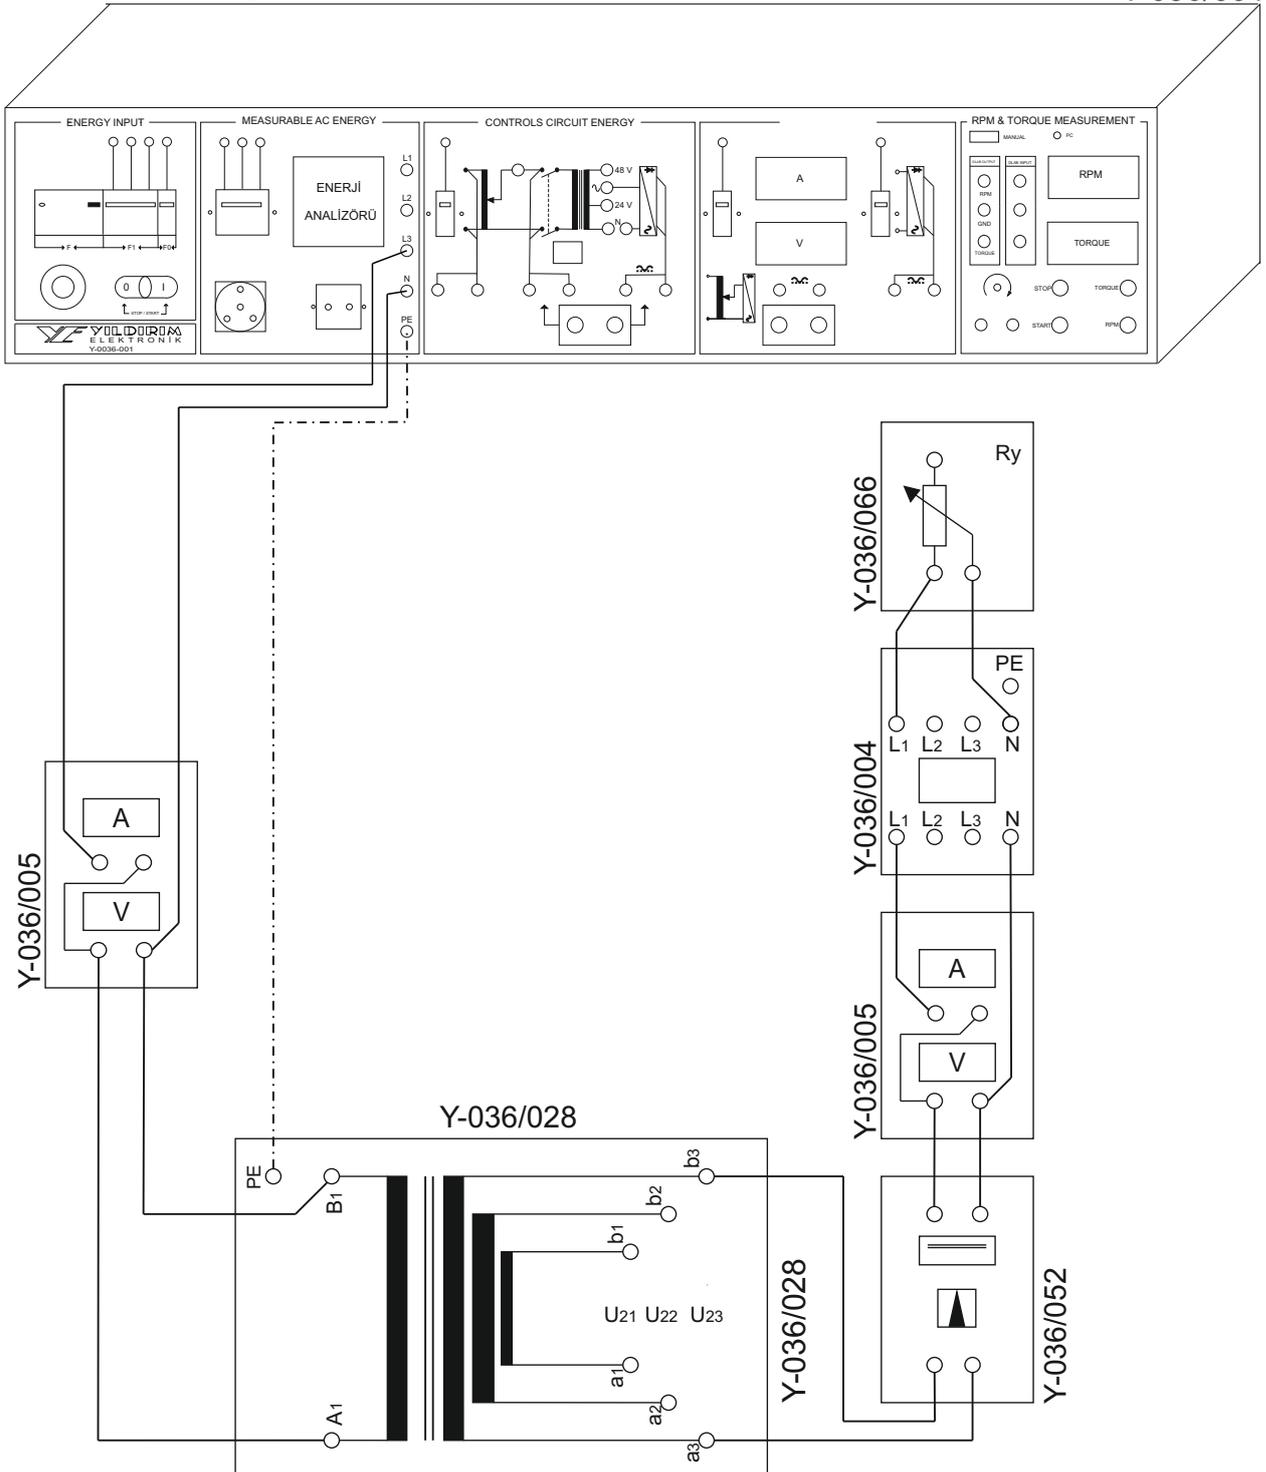

Figure 23.1 Connection diagram for the loaded operation of the single phase transformer.
-Connect the circuit shown in figure 23.1 and 23.2.
-Load the transformer up to 1.25 times the rated power using the load rheostat (RL) step by step. Take note of the values I_p , U_p , U_s and the parameters in the energy analyzer in each step.